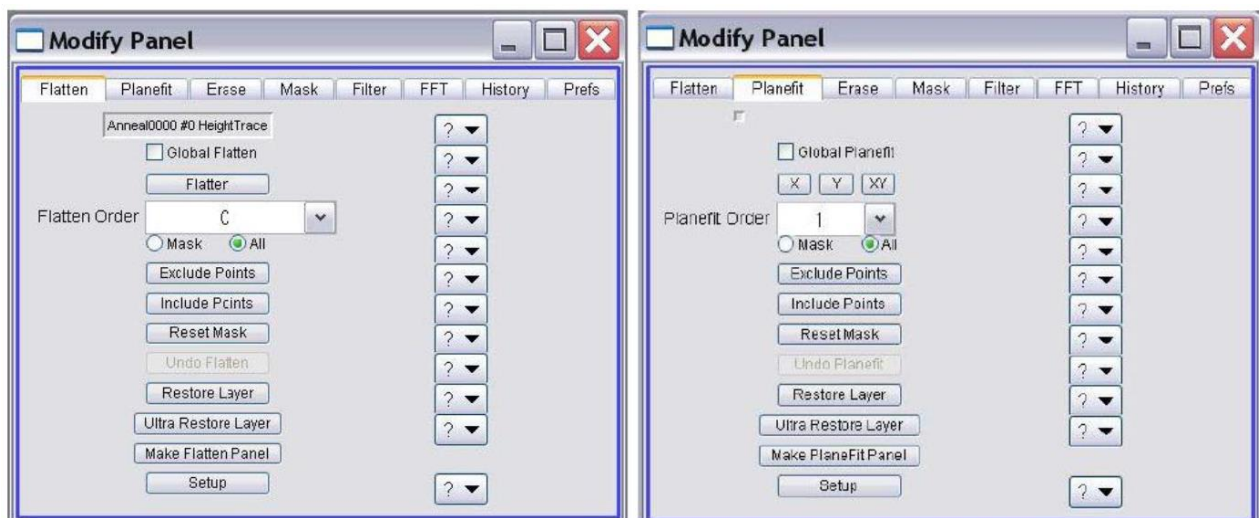

Figure 12. (left) Flatten tab and (right) PlaneFit tab [2].
2. Select the **'Flatten'** Tab (Figure 12). Set a Flatten Order to 0 in the pull-down menu, and select the **'All'** radio button underneath.
4. Select the **'PlaneFit'** Tab (Figure 12).